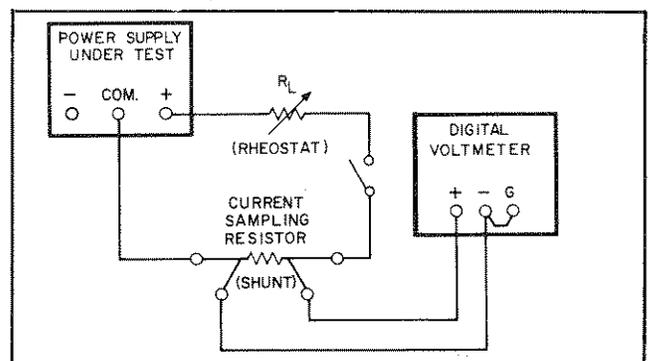

Figure 5-3. Output Current, Test Setup
f. Connect the test setup shown in Figure 5-3 to the +6V (or +18V) output. Make the total resistance of R_L and the current sampling resistor 2.4 ohms for the Model 6236A (or 18 ohms for the 6237A) to permit operating the output at full load. R_L should have a power rating of at least 20 watts.
j. Check the rated output and ammeter accuracy of the +20V and -20V supplies similarly by connecting the test setup of Figure 5-3 to each output in turn. For each 20V supply: make the total resistance of R_L and the current sampling resistor 40 ohms, set the $\pm 20\text{V}$ VOLTAGE control for a current indication on the DVM of 0.5A, check that the panel meter indication is within 4% of 0.5A, connect the DVM to the fully loaded output terminals, and compare the output voltage before and after the load circuit is opened. The voltage should not change by more than 4mV. While checking each supply, the other two must be fully loaded.
l. Connect the test setup shown in Figure 5-3 to the +20-volt output. Substitute a short for R_L and leave the load circuit switch open.
q. (Steps (q) through (s) apply to the 6236A only.) Connect the test setup shown in Figure 5-3 to the +6V output. Close the switch, set the total resistance of R_L and the current sampling resistor to an initial value of 2.4 ohms or greater, and set the output voltage to 6 volts.